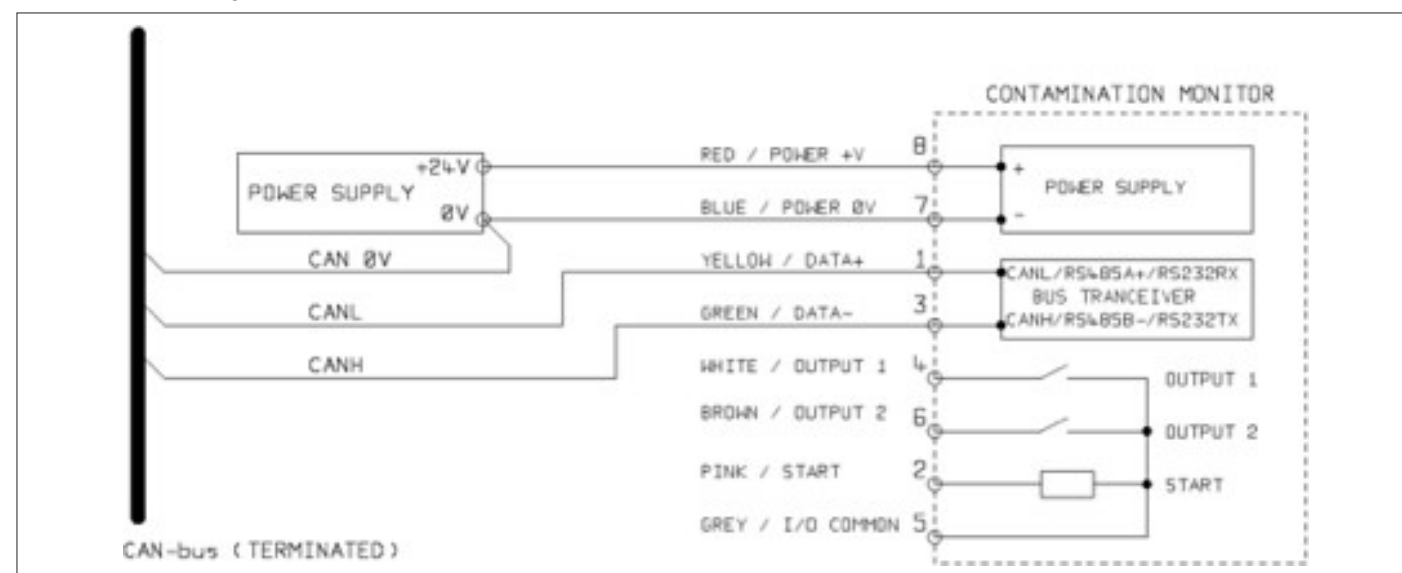

Figure 5.31
- Connect the ICM 2.0/4.0 to your CANbus network and provide a 24VDC power supply, as per figure 5.31.